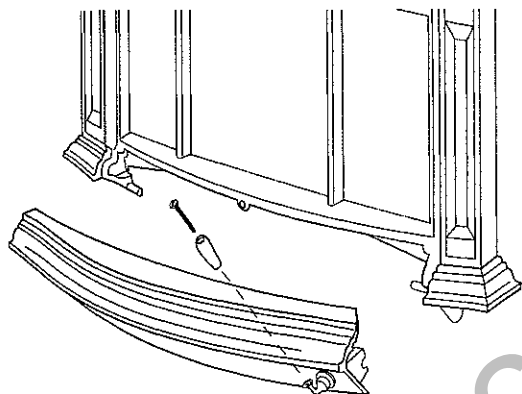

Fig. 26. Attach the handle to the control door.
3. Attach the wooden handle to the control door using the #8-32 x 2" screw from the parts bag. Fig. 26.